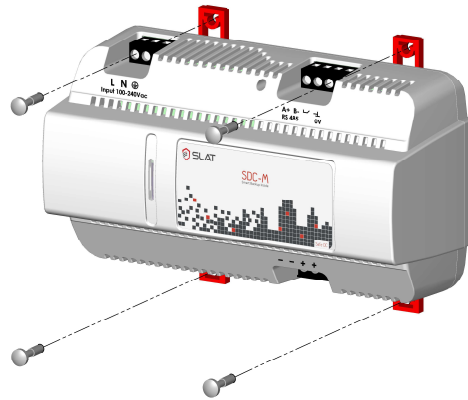

Figure 6.2: Position on mounting plate
- a. Open the four mounting clips (red parts) by pushing them outwards with the help of a flat-head screwdriver so that they are in the position shown in Figure 6.2.
- b. Attach the product in the way indicated in Figure 6.2 using four screws.